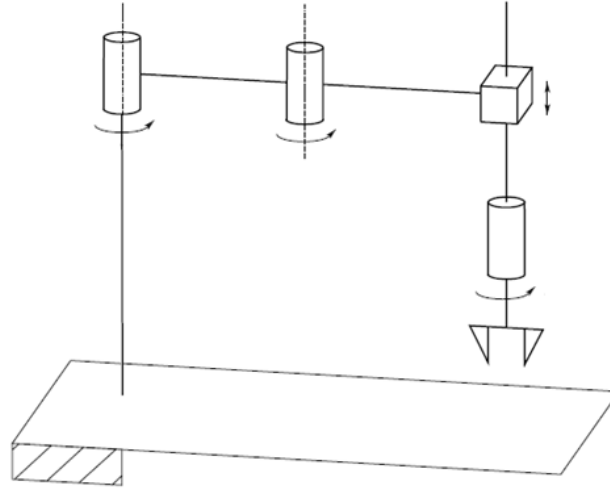

Fig. 2
- 2 For the SCARA manipulator shown in Fig. 2, assign link frames, give the DH parameters and find the transformation matrices  ${}^0_1T$ ,  ${}^1_2T$ ,  ${}^2_3T$ ,  ${}^3_4T$  and  ${}^0_4T$ . 20